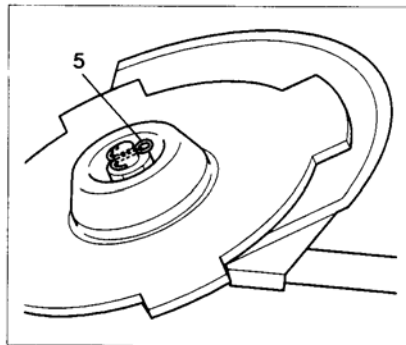

Fig. 1-10C
If your unit is of a nut-securing type, the blade must be retained with a new cotter pin (5) each time installed. (Fig. 1-10C)